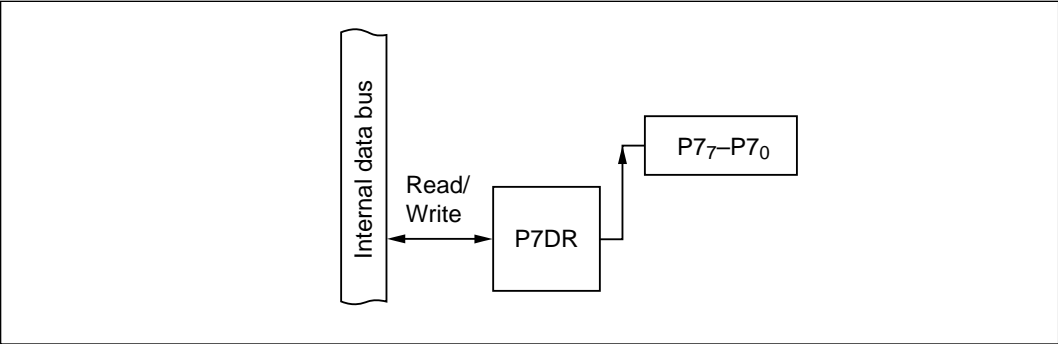

Figure 10-46 Output Port (Modes 1 to 7)
(2) Output Port (Modes 1 to 7): Figure 10-46 shows a block diagram illustrating the general-purpose output function. Table 10-37 indicates register read/write data. The value written in the port 7 data register (P7DR) is output at the pin. When read, P7DR returns the value written in P7DR.